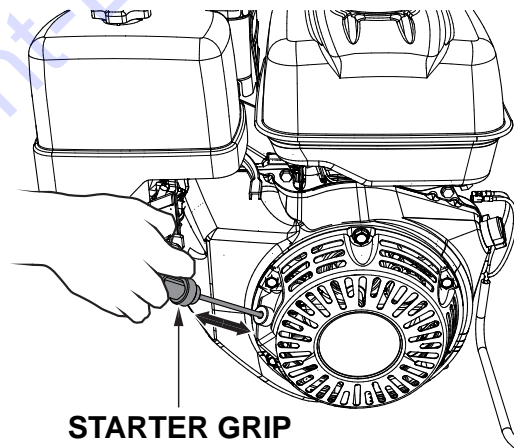

Figure 36. Starter Grip
- Slowly pull the starter grip (Figure 36) until resistance is felt, then pull briskly and smoothly to start the engine. Gently return the starter grip to its original position.